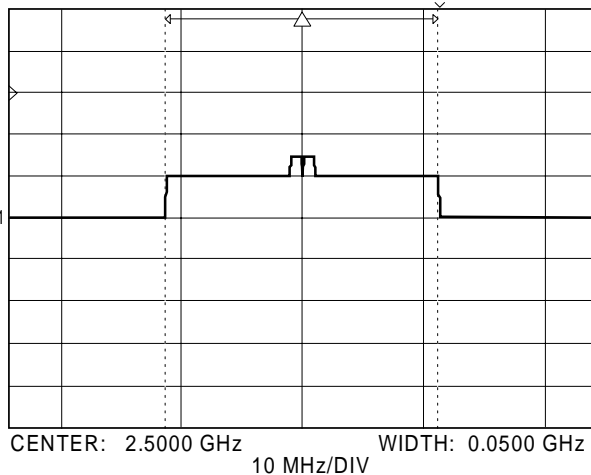

Figure 6-4. Typical Low Band Edge 500 MHz Marker
The 500 MHz markers are one graticule division in height; the 25 MHz markers are one-half division (Figure 6-4).
- Step 10** The 500 MHz marker waveform should be displayed on the 54XXA screen (Figure 6-4). The waveform should have a displayed width between “12 MHz” and “26 MHz.” Use the cursor and delta cursor to measure the waveform width, as necessary.
Step 13 For all models, set the center frequency to the first 500 MHz point below the upper band edge frequency of the unit (Table 6-6). The high frequency marker display should resemble that shown in Figure 6-4. (For models 5417A and 5419A, the waveform width will typically be reduced.)